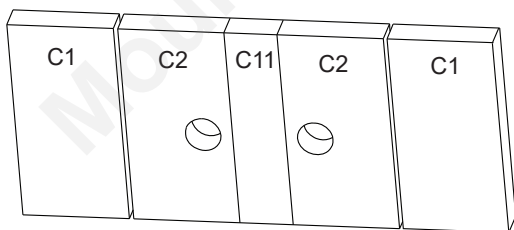

Figure 3
4. Install rear bricks at the back of the appliance. Slide the bricks under clip on back of firebox wall and push into place (**Figure 3**).